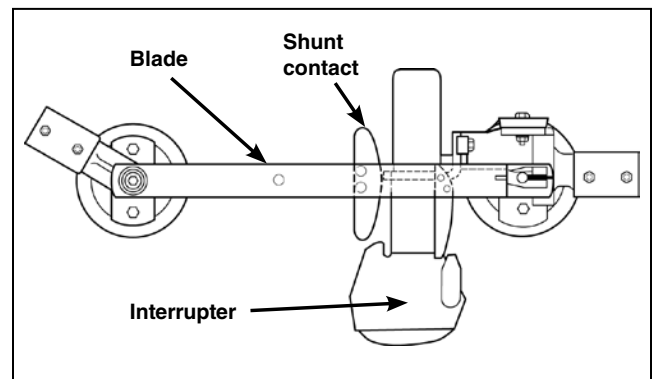

Figure 38. Blade assembly moving in the *opening* direction.
- (e) Move the blades in the *opening* direction and verify that each blade-shunt contact firmly engages its respective interrupter housing before the blade contacts disengage from the stationary main contact assemblies. See Figure 38. The shunt contacts may be bent as required to conform to these conditions.